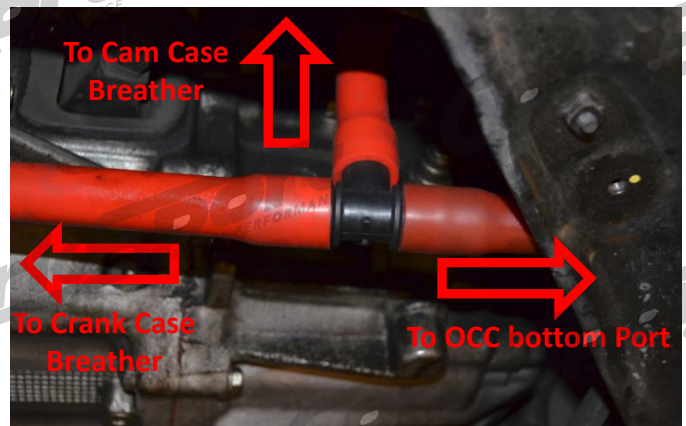

Figure 2h
- l) "T" the hose connected in **step 2j** to the hose connected in **step 2h**. Use the supplied PCV T (shown circled in **Figure 2h**). Trim the hoses as necessary to prevent kinking and interference with moving parts.
- l) "T" the hose connected in step 2j to the hose connected in step 2h. Use the supplied PCV T (shown in **Figure 2h**). Trim the hoses as necessary to prevent kinking and interference with moving parts.